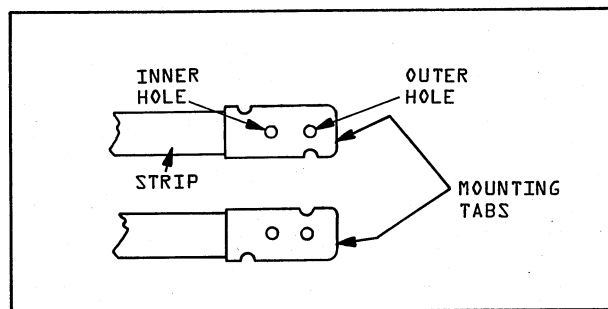

FIGURE 5-45. RESIDUAL STRIP REPLACEMENT
7. Position the strip's mounting tabs so that on one side of the armature bar the inner hole (closest to the strip) is positioned over the locating pin. On the opposite side of the armature bar, the mounting tab must be positioned over the pin using the outer hole. See Figure 5-45.